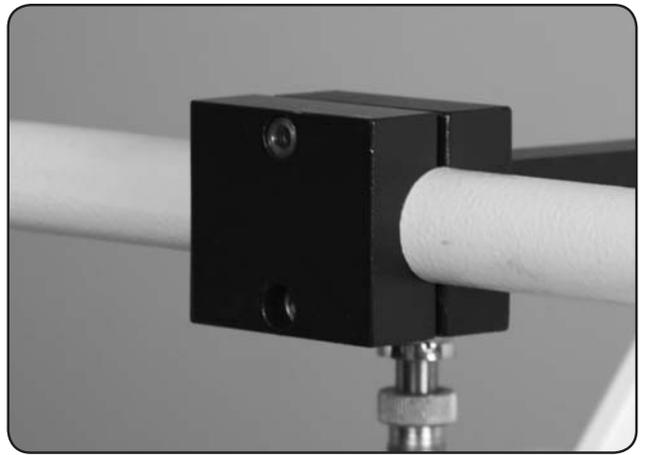

Fig. 8-1
Step 8-1: Remove the two SHBC's from front part of the Handle Bar Mount. **Fig. 8-1.**